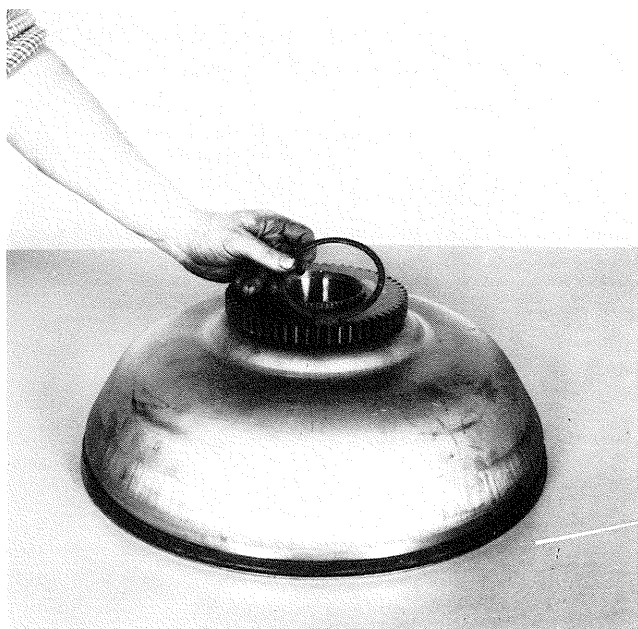

**Figure 253**
**NOTE:** Do not install Low (1st) clutch rear bearing cap at this time, or install bearing cap temporarily. See note after Figure 253.